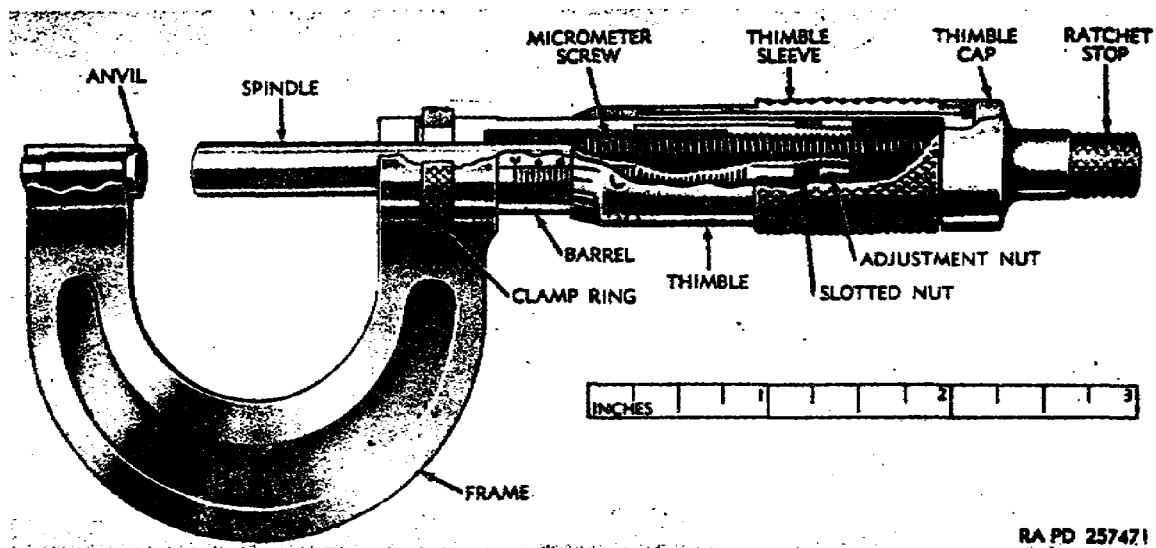

Figure 56. Micrometer, caliper, cutaway view.
1. The micrometer caliper (fig 56) is the most common type. It has a range of 0 to 1 inch and is graduated to read in thousandths of an inch or in units of the Metric system, from 0 to 25 millimeters by hundredths of a millimeter.
(a) Design. The micrometer (fig 56) makes use of the relation of the circular movement of a screw to its axial movement. The amount of axial movement of a screw per revolution depends on the thread, and is known as the lead. If a circular nut on a screw has its circumference divided into 25 equal spaces, and if the nut advances axially 1/40 inch for each revolution, then if it is turned one division, or 1/25 of a revolution, it will move axially $1/25 \times 1/40$, or 1/1000 of an inch. In the micrometer the nut is stationary and the screw moves forward axially a distance proportional to the amount it is turned. The screw on a micrometer has 40 threads to the inch, and the thimble has its circumference divided into 25 parts, so 1 division on the thimble represents an advancement of 1/1000 of an inch axially.